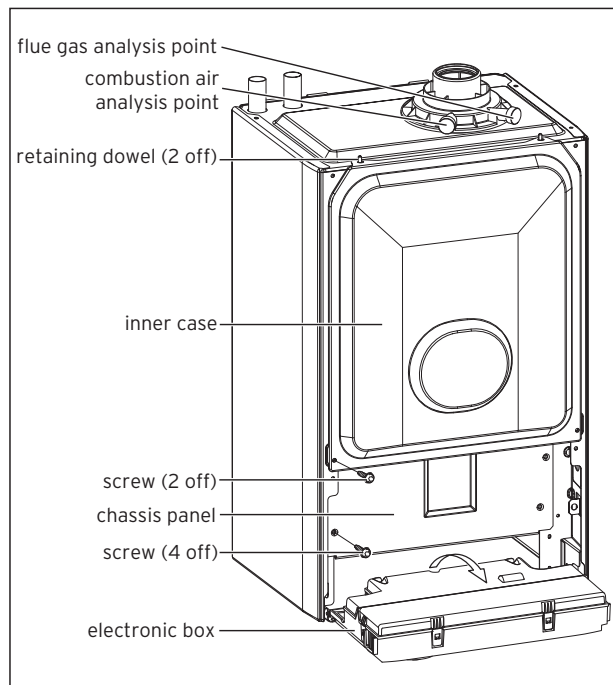

Fig. 5.1 Inner case and chassis removal
- Remove the chassis panel by pulling it out at the top from its retaining slots, see fig 5.1.